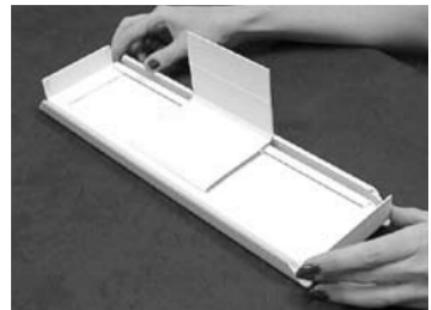

Figure C2
3. Install the two small valance return connectors at either end of your valance by sliding the edge of the valance return connectors into the grooves at the end of each side of the valance. (See Figure C2)